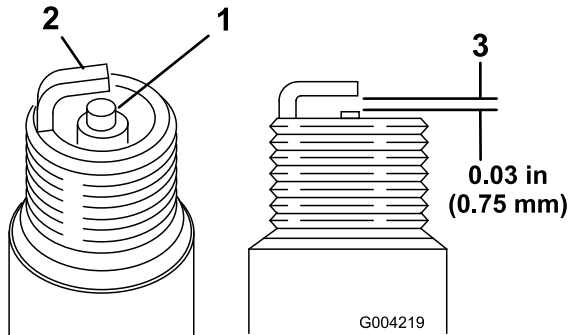

Figure 18
1. Look at the center of the spark plug (Figure 18). If you see light brown or gray on the insulator, the engine is operating properly. A black coating on the insulator usually means that the air cleaner is dirty.
2. Check the gap between the center and side electrodes (Figure 18). Bend the side electrode (Figure 18) if the gap is not correct.